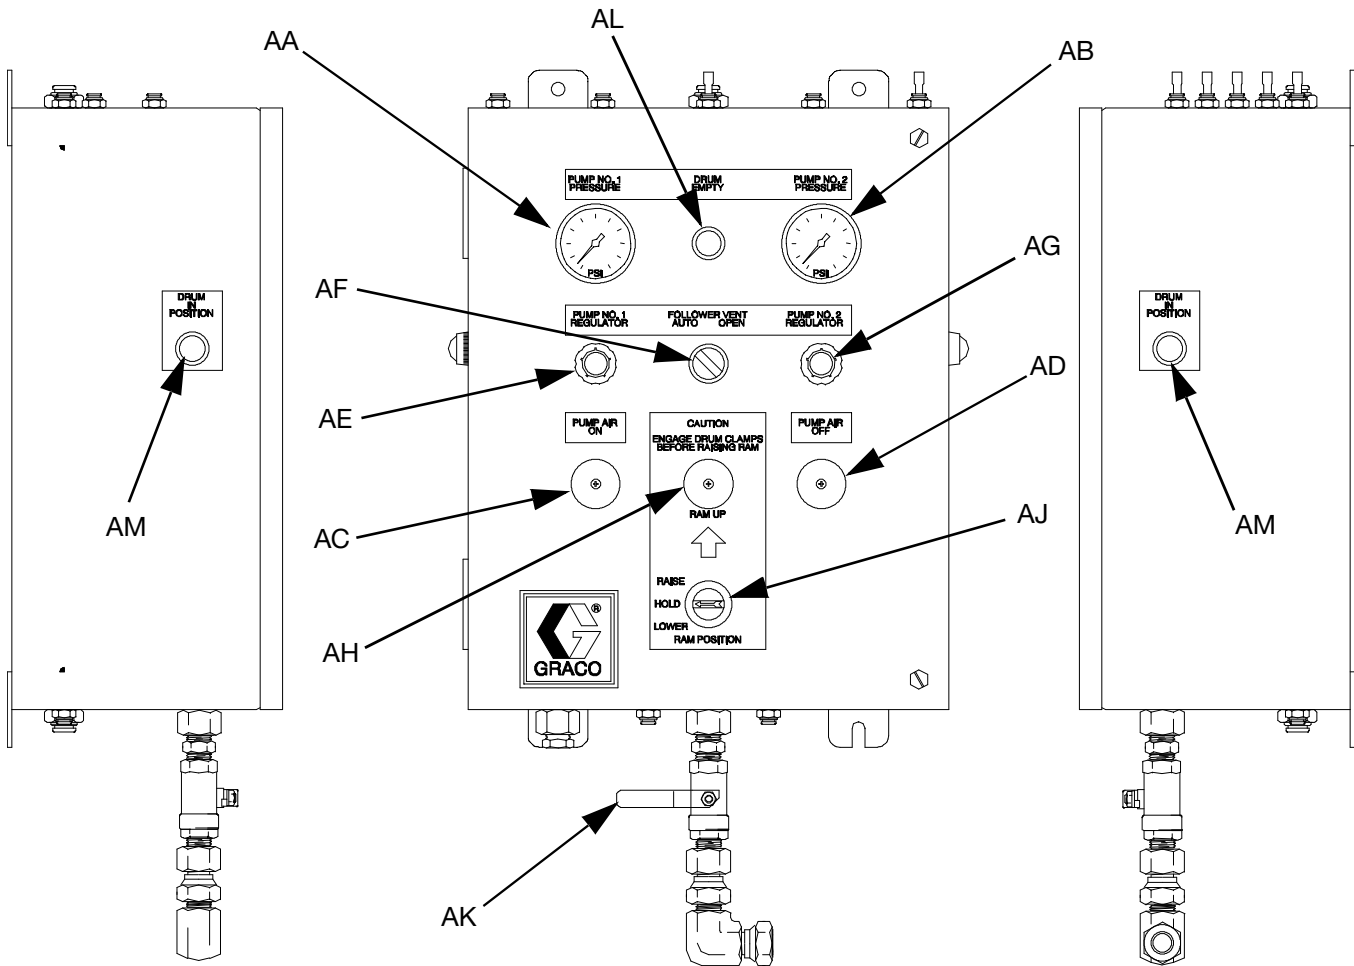

**FIG. 1: UniDrum Supply System with XL 10000 Air Motors**
**NOTE:** FIG. 1 shows the typical UniDrum Supply System equipped with XL 10000™ air motors.
See FIG. 1 on page 9.